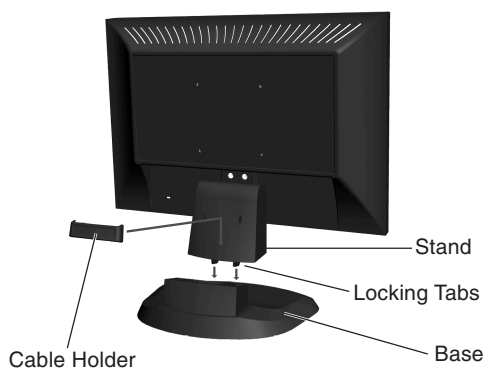

Figure S.1
1. Attach the Base to the Stand. The locking tabs on the Stand should fit into the hole on the centre back of the Base (**Figure S.1**).
1. Insert the tabs of Cable Holder into the hole of Stand and slide the Cable Holder downward into place (**Figure S.1**).